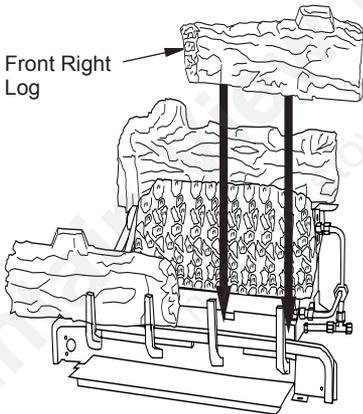

Figure 32 - Installing Front Right Log
4. Position front right log against right side of grate prongs (see Figure 32).